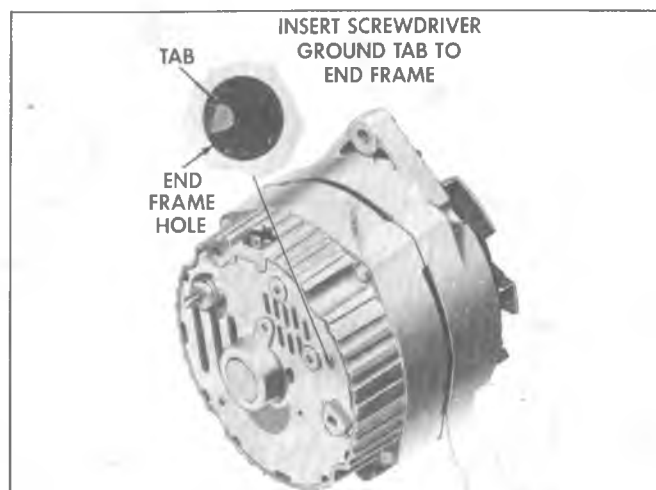

Fig. 6D-6C--Generator Test Hole
- g. If ampere output is not within 10 percent of rated output, determine if test hole is accessible (Fig. 6D-6C). If accessible go to step h. If not accessible go to step l.
- h. Ground the field winding by inserting a screwdriver into the test hole (Fig. 6D-6C).